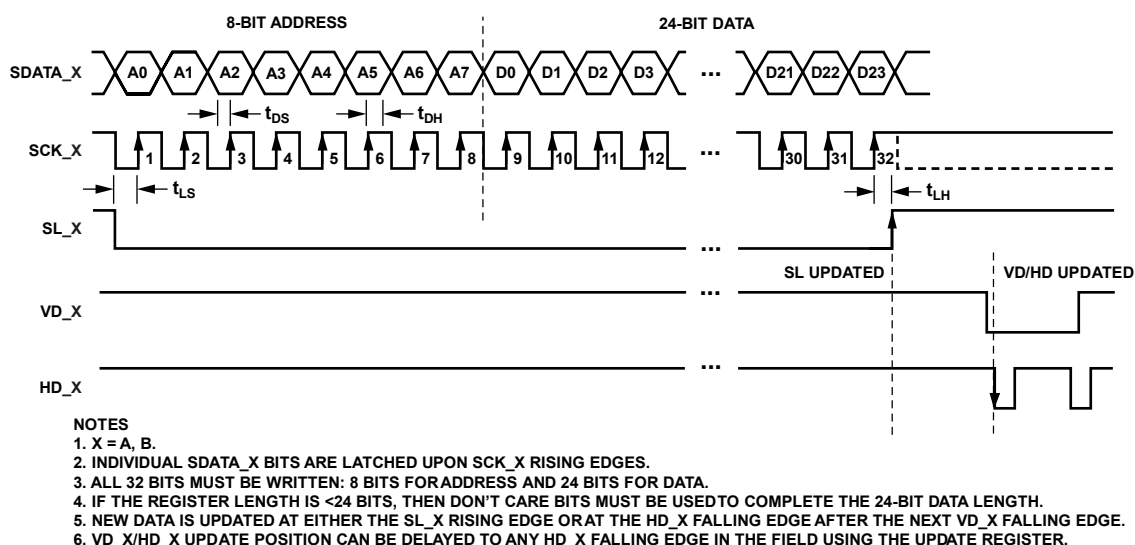

Figure 14. Serial Write Operation
All of the AD9942 internal registers are accessed through a 6-wire serial interface. Each register consists of an 8-bit address and a 24-bit data-word. Both the 8-bit address and the 24-bit data-word are written starting with the LSB. To write to each register, a 32-bit operation is required, as shown in Figure 14. Although many registers are less than 24 bits wide, all 24 bits must be written for each register. If the register is only 16 bits wide, then the upper 8 bits can be filled with 0s during the serial write operation. If fewer than 24 bits are written, the register is not updated with new data.
- All registers are VD_X/HD_X updated as shown in Figure 14, except for the registers indicated in Table 8, which are SL_X updated.